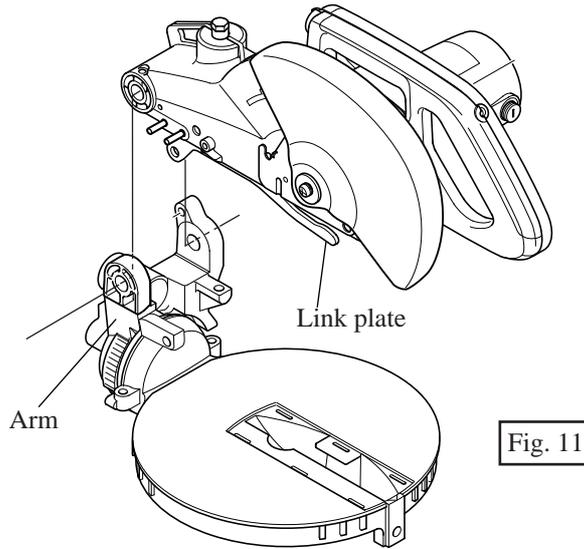

Fig. 11
(3) Mount the motor unit to arm aligning the arm's holes with blade cases holes for inserting rod 16. See Fig. 11.